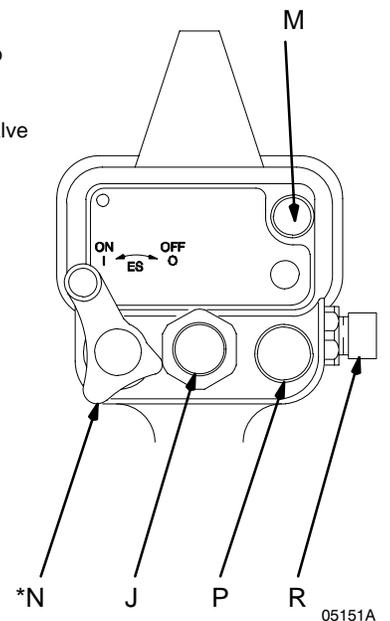

Fig. 10
4. If necessary, further adjust the fluid flow rate with the fluid adjustment knob (J). See Fig. 10.
5. Fully open the fan air valve (P).
### KEY-Fig. 10